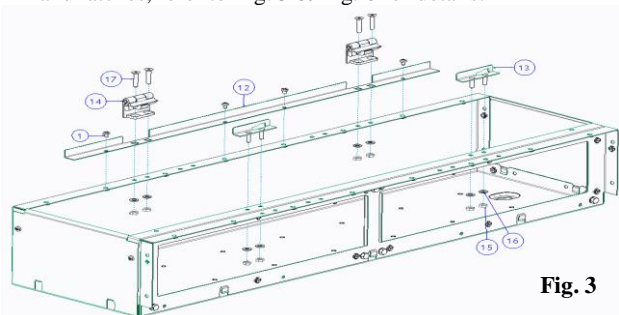

Fig. 3
- After the cableway box is assembled start adding the hinges and latches, refer to Fig. 3 & Fig. 6 for details.